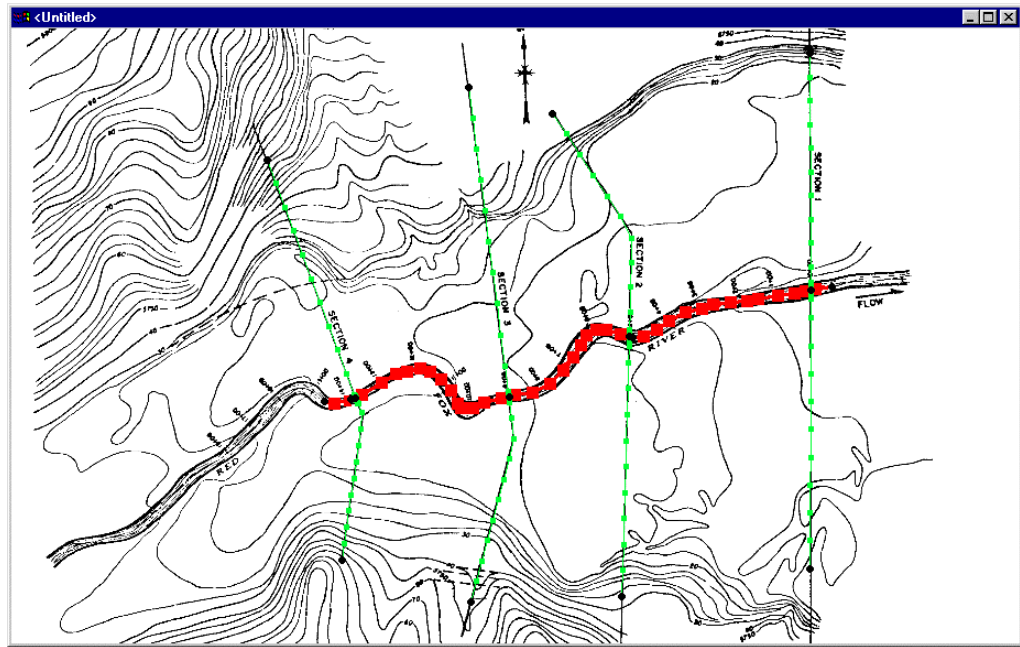

Figure 16-3 The *redfox_a.map* data.
2. Open the file named *redfox_a.map* from the *tutorial* directory. The map file contains arcs as shown in Figure 16-3.